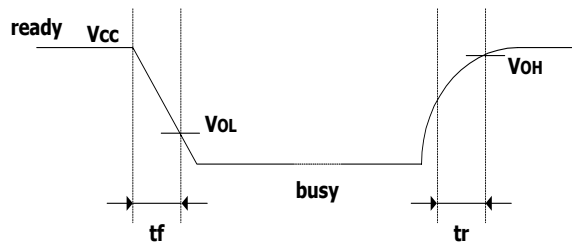

Figure 32. Ready/Busy AC Waveform
Note: (1). The time to Ready depends on the value of the pull-up resistor tied to the Ready/Busy pin. See Figures 32, 33 and 34.
Figures 32, 33 and 34 show the electrical characteristics for the Ready/Busy signal. The value required for the resistor R_p can be calculated using the following equation: